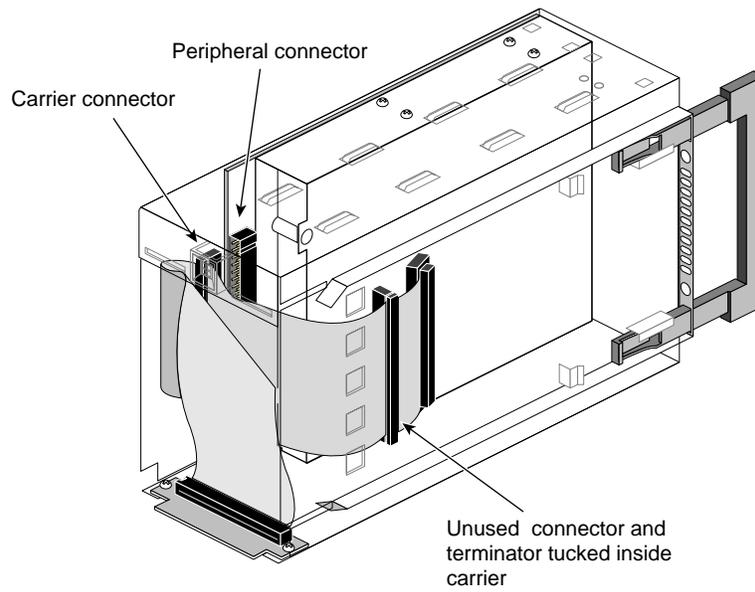

Figure 2-21 Attaching the SCSI Cable to a 5.25-Inch Drive
6. Attach one of the connectors on the SCSI cable to the drive. Use whichever connector fits conveniently for the position of the drive's SCSI connector. See Figure 2-21.